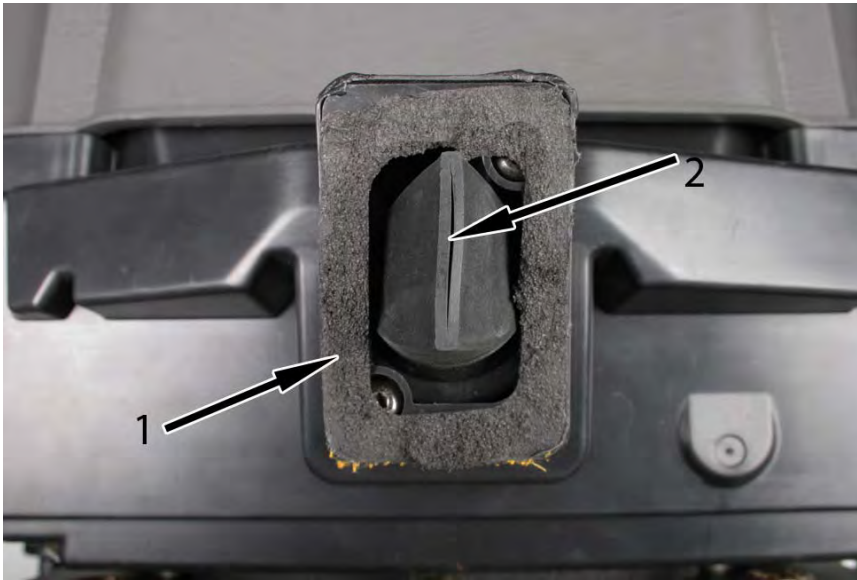

Figure 28 Rubber Drain Valve
- c. With the mounting nuts loosened, gently pull the HVAC unit rearward to expose the drain seal for easier removal (See Figure 26, page 21) and (See Figure 27, page 21). Remove the foam seal and not the rubber drain valve (See Figure 28, page 22).